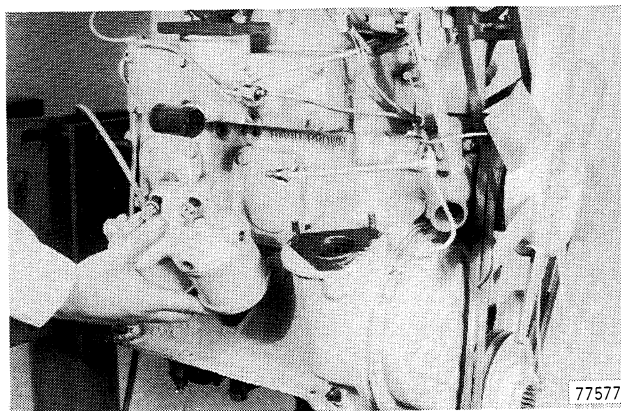

Figure 25
6. Remove the fuel filter, Figure 25. Do not lose the spacers behind the filter.